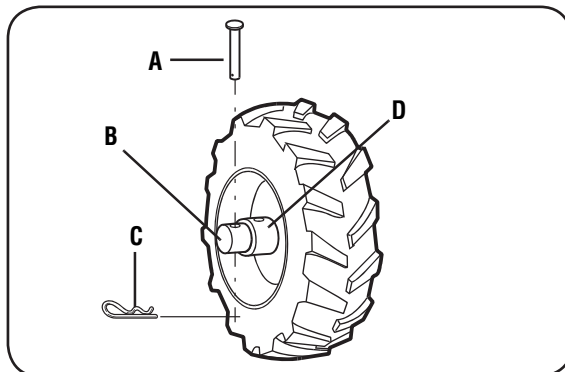

Figure 3-2: WHEEL DRIVE position.
Each wheel is equipped with a cotter pin and clevis pin (C, Figures 3-2 and 3-3) that secures the wheel to the wheel shaft (B). The wheels can be positioned in either a WHEEL DRIVE or a FREEWHEEL mode.
3. Remove clevis pin and cotter pin (A, Figures 3-2 and 3-3) from wheel drive shaft (B).
4. **FOR WHEEL DRIVE MODE** (Figure 3-2): Slide wheel outward and align holes in wheel hub (D, Figure 3-2) and wheel shaft (B). Insert clevis pin (A) through wheel hub (C) and wheel shaft (B) and secure with cotter pin. Repeat with the other wheel and then remove the support from beneath the transmission.